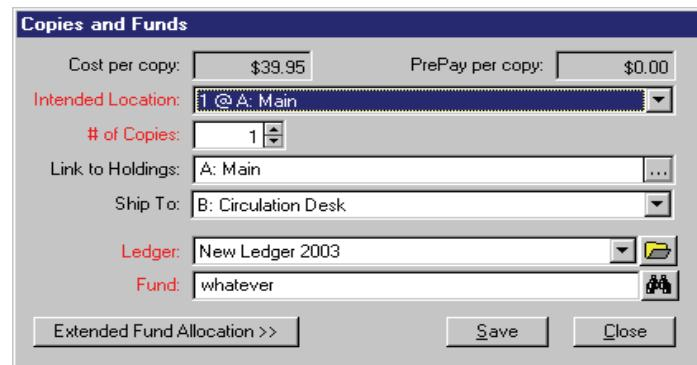

Figure 13-14. Copies and Funds dialog box - ellipsis displayed beside the Link to Holdings field
- The **ellipsis** button beside the **Link to Holdings** field on the **Copies and Funds** dialog box (Figure 13-14). The **Copies and Funds** dialog box can be displayed from the **Copies/Funds** tab of a line item. See Copies/Funds Tab on page 6-45.